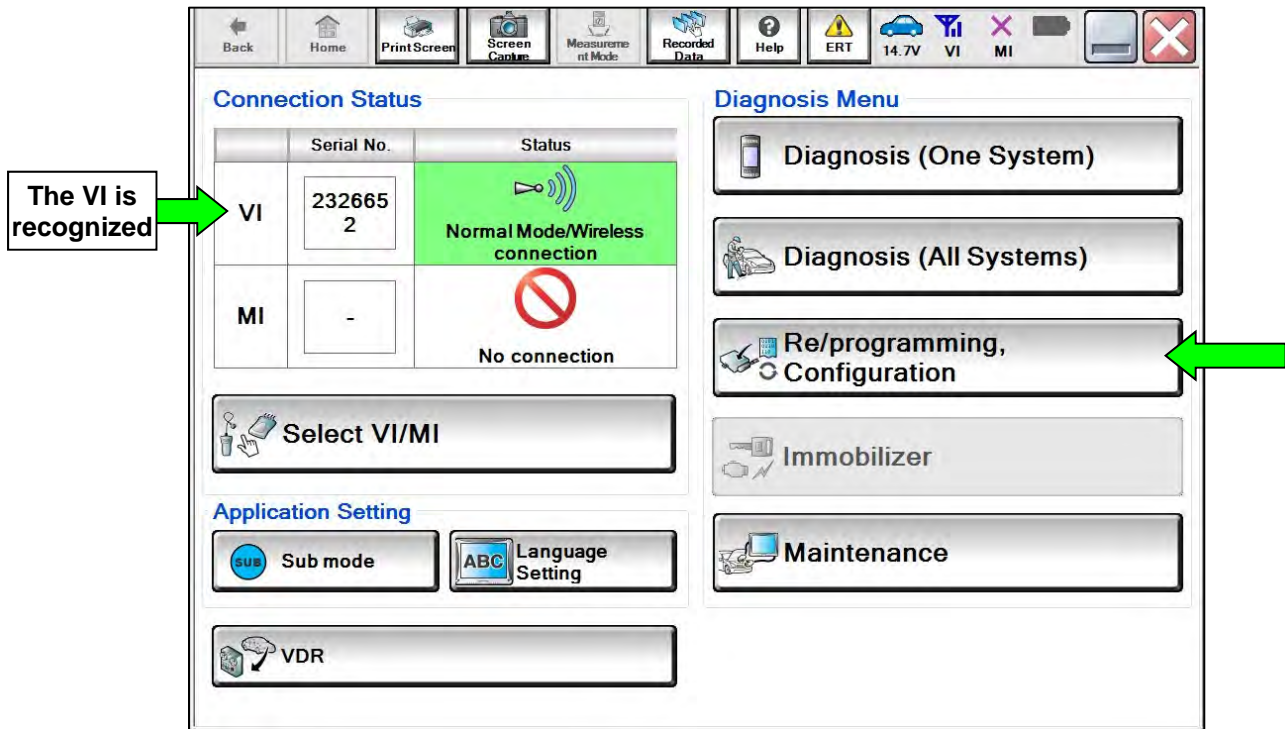

Figure 3
- The serial number will display when the VI is recognized (Figure 3 on page 4).